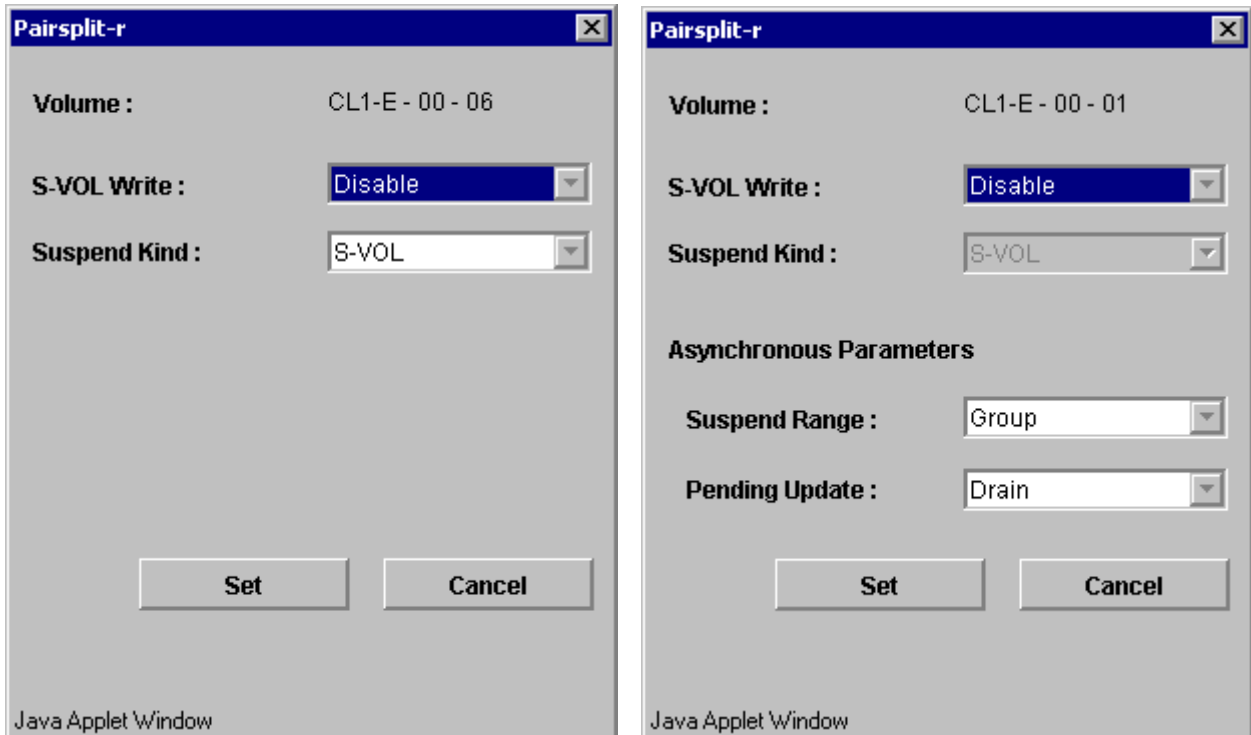

Figure 5.11 Pairsplit-r Panel (Synchronous and Asynchronous)
The Pairsplit-r panel (see Figure 5.11) allows you to split existing TrueCopy pairs and select the pairsplit options for the pair(s). To open the Pairsplit-r panel, select the **Pair Operations** tab, select any item in the outline list (subsystem, CU image, or port), select the desired pair(s), right-click, and then select **Pairsplit-r**. For further information on split TrueCopy pairs, see section 2.5.1.
4. Right-click, and select **Pairsplit-r** to open the Pairsplit-r panel (refer to Figure 5.11).